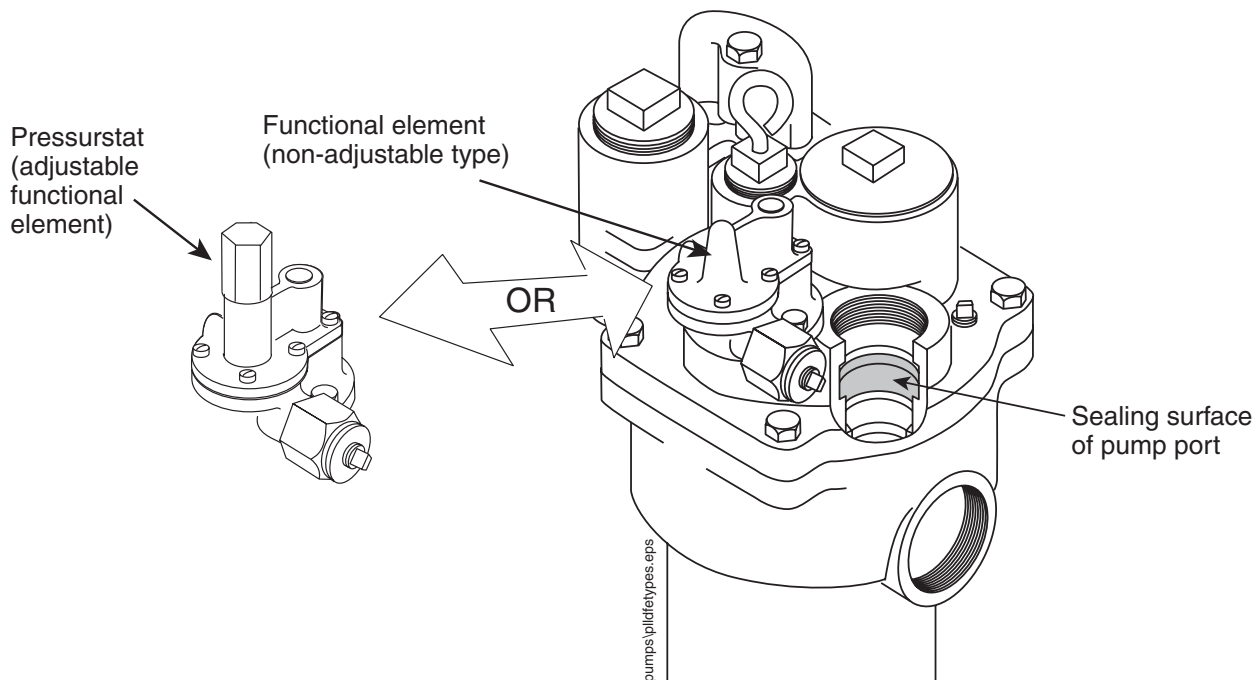

Figure 3. Sealing surface for SwiftCheck valve's external O-ring (with both functional element types identified)
4. Ensure that the sealing surface for the SwiftCheck valve's external o-ring is smooth and free from corrosion, pitting, and any material build-up [Figure 3].